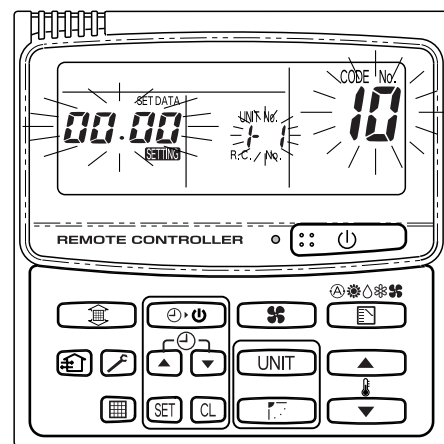

Fig. 9-6
- (1) Press the and buttons at the same time of the remote controller for more than 4 seconds.
- (2) Do not press button.
- (3) Once in this mode, the UNIT No., CODE No., No. of SET DATA and indications will flash on the display as shown Fig. 9-6.